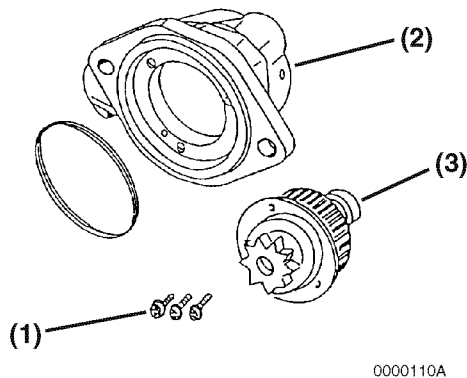

Figure 11-9
9. Remove the three M4 bolts (**Figure 11-9, (1)**) securing the bearing retainer assembly (**Figure 11-9, (2)**) to the gear housing. Remove the bearing retainer assembly from the gear housing.
10. Remove the pinion clutch assembly (**Figure 11-9, (3)**) from the bearing retainer assembly.